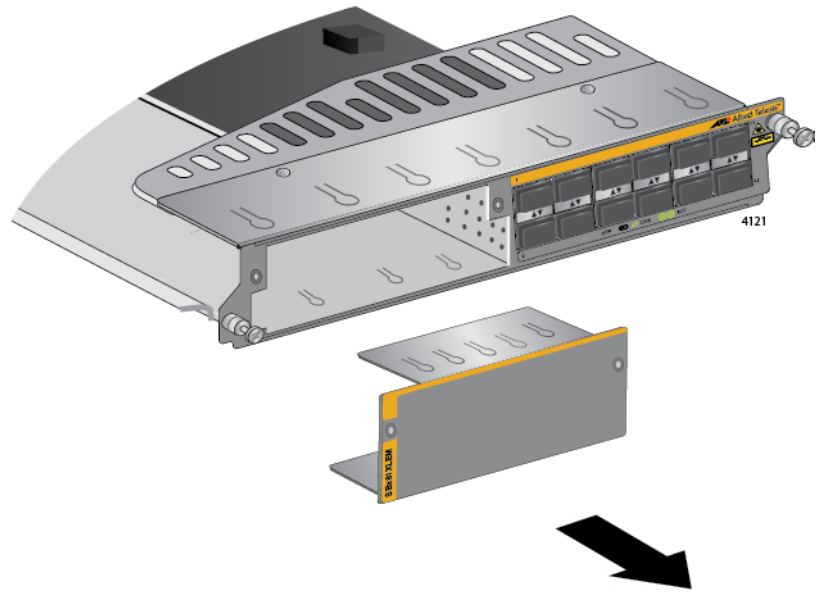

Figure 80. Removing the Blank Slot Cover from the AT-SBx81XLEM Line Card
5. Slide the blank slot cover from the slot. Refer to Figure 80 on page 154.